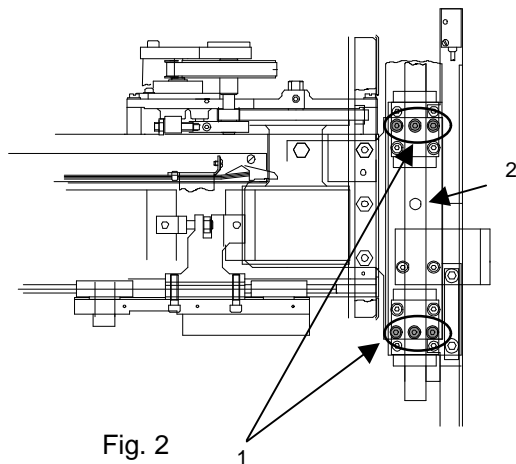

Fig. 2
On the right side the beam is secured by an additional pin (Fig.2/2). When lifting the beam please note that it is not canted.
6. Place beam carefully onto the bearing plates and ensure that the pin (Fig. 2/2) is perfectly slipping into its hole.